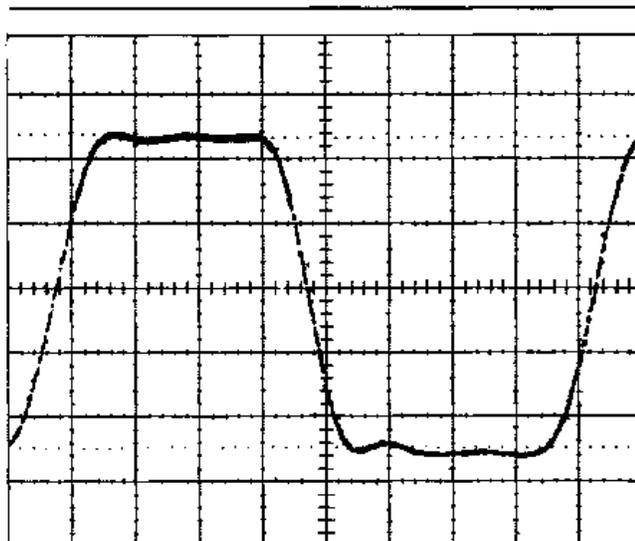

Figure F-4.
- To measure symmetry at 12 MHz a different technique must be used. Connect signal (terminated into 50Ω) to a sampler set at 10 ns/div. Upper and lower levels should be exactly centered about horizontal centerline on scope display (see figure F-4). Rising edges of first and second cycle should be exactly equidistant from vertical center line. The distance of the falling edge from the vertical center line at the point falling edge crosses horizontal center line is the symmetry error.